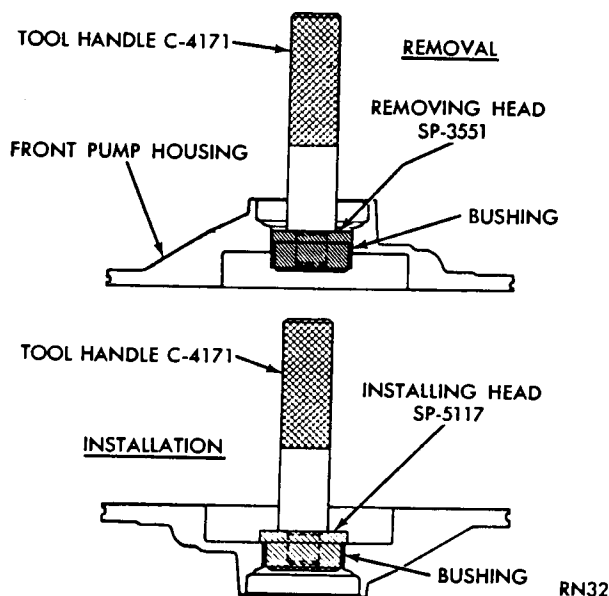
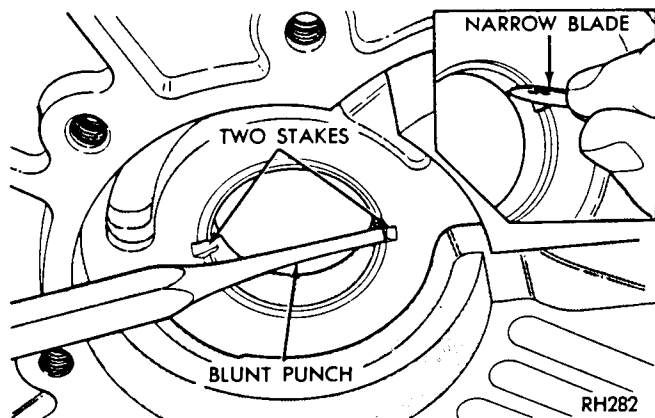

Fig. 10—Replace Pump Bushing (A-904T and A-999)
Fig. 11—Stake Pump Bushing (A-904T and A-999)
(1) Place pump housing (seal face down) on a smooth, firm surface.
(2) Place removing head, Tool SP-3551 in bushing and install handle Tool C-4171 in removing head (Fig. 10).
(3) Drive bushing straight down and out of pump housing bore. Be careful not to cock tool in the bore.
(4) Position new bushing on installing head Tool SP-5117.
(5) With pump housing on a smooth, clean surface, start bushing and installing head in the bushing bore. Install handle in the installing head (Fig. 10).
(6) Drive bushing into housing until tool bottoms in the pump cavity. Be careful not to cock tool during installation.
(7) Stake bushing in place by using a blunt punch or similar tool (Fig. 11). A gentle tap at each stake slot location will suffice.
(8) Using a narrow-bladed knife or similar tool, remove high points or burrs around staked area (Fig. 11). Do not use a file or similar tool that will remove more metal than is necessary.